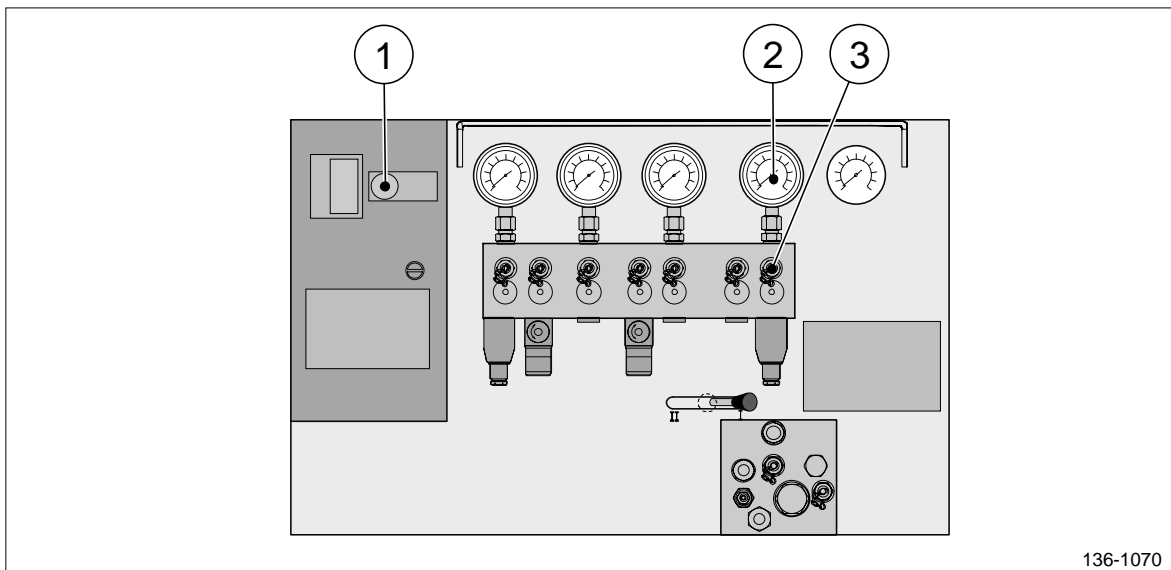

Figure 3 Control panel on the hydraulic power pack.
4. Set the local/remote switch (pos 1, figure 3) on the hydraulic power pack control panel to **LOCAL CONTROL**.
6. Connect a hose with test connection to the test nipple TP6 (pos 3, figure 3). Note that when the hose is attached to the test nipple, oil will flow out and release the pressure. Take proper measures to collect the oil. Disconnect the hose when the pressure is released. Dispose the collected oil according to local regulations.
- 11.2. Inspect the pressure on gauge G5 (pos 2, figure 3) and make sure that the value corresponds with the value stated in the hydraulic diagram drawing.